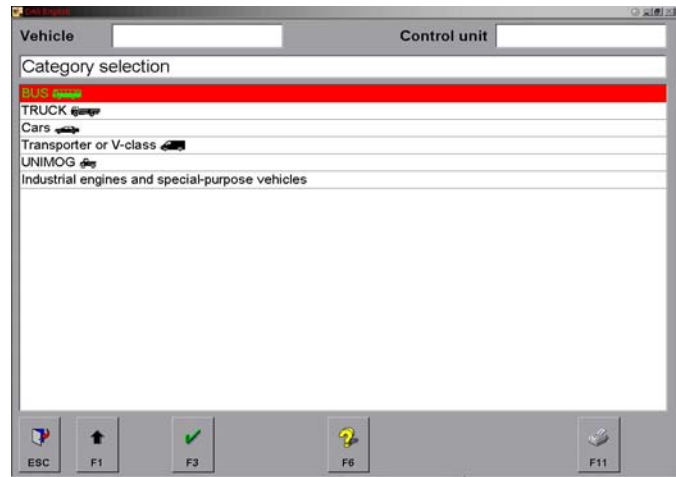

Figure 12
1. Select 'Cars', Press 'F3' (Figure 12)